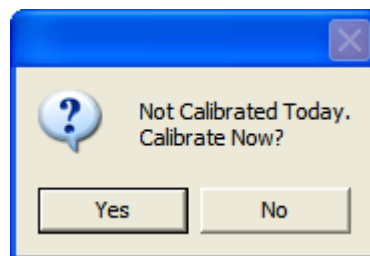
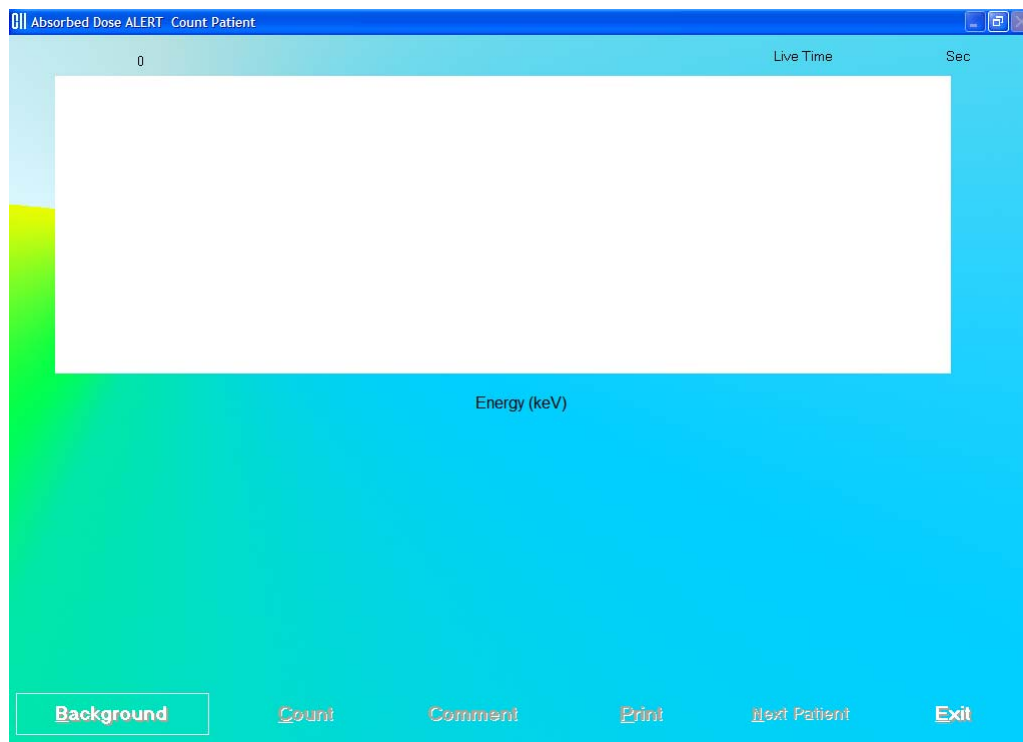

Figure 7-20
Figure 7-21 Count Patient Measurement Screen
9. To measure this patient now, click the **Count** button. Figure 7-21 Count Patient Measurement Screen will appear.
- To measure this patient now, click the **Count** button. Figure 7-21 Count Patient Measurement Screen will appear.
2. To begin the measurements, click the **Count Selected Patients** button or press *Alt+C*. The screen appears as shown in Figure 7-21 Count Patient Measurement Screen.
Note: *If calibration has not been performed for the current day, you will be prompted with the screen as shown in Figure 7-20. After the calibration is complete, the program will return to the Emergency Screening Count Patient screen shown in Figure 7-21 Count Patient Measurement Screen.*